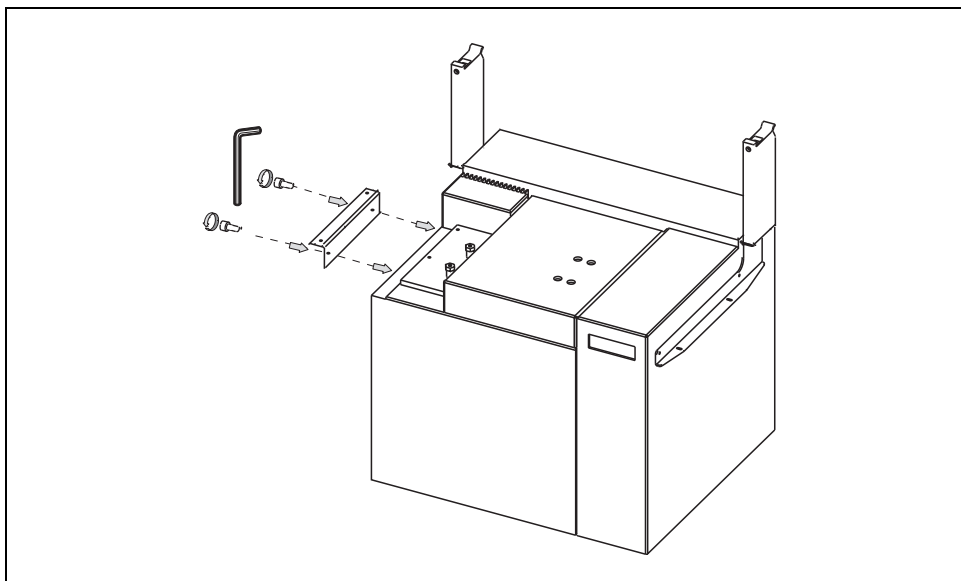

Figure 4-21. Spacer Plate Installation on the Second Agilent 6890 GC
6. Mount the spacer plate on the left side of the second GC unit as shown in Figure 4-21.